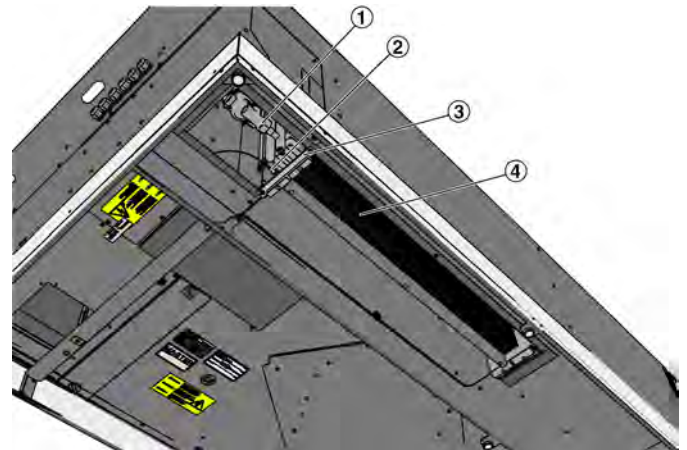

Fig. 78: Removing the heat exchanger
6. ▶ Remove the protective earth conductor (Fig. 78 /2) from the heat exchanger.
7. ▶ Depressurise the water-side connections (Fig. 78 /1) and disconnect the pipes from the heat exchanger.
8. ▶ Loosen the two Phillips screws on the heat exchanger fixing bracket (Fig. 78 /3), then remove the fixing bracket and pull the heat exchanger from below out of the casing.